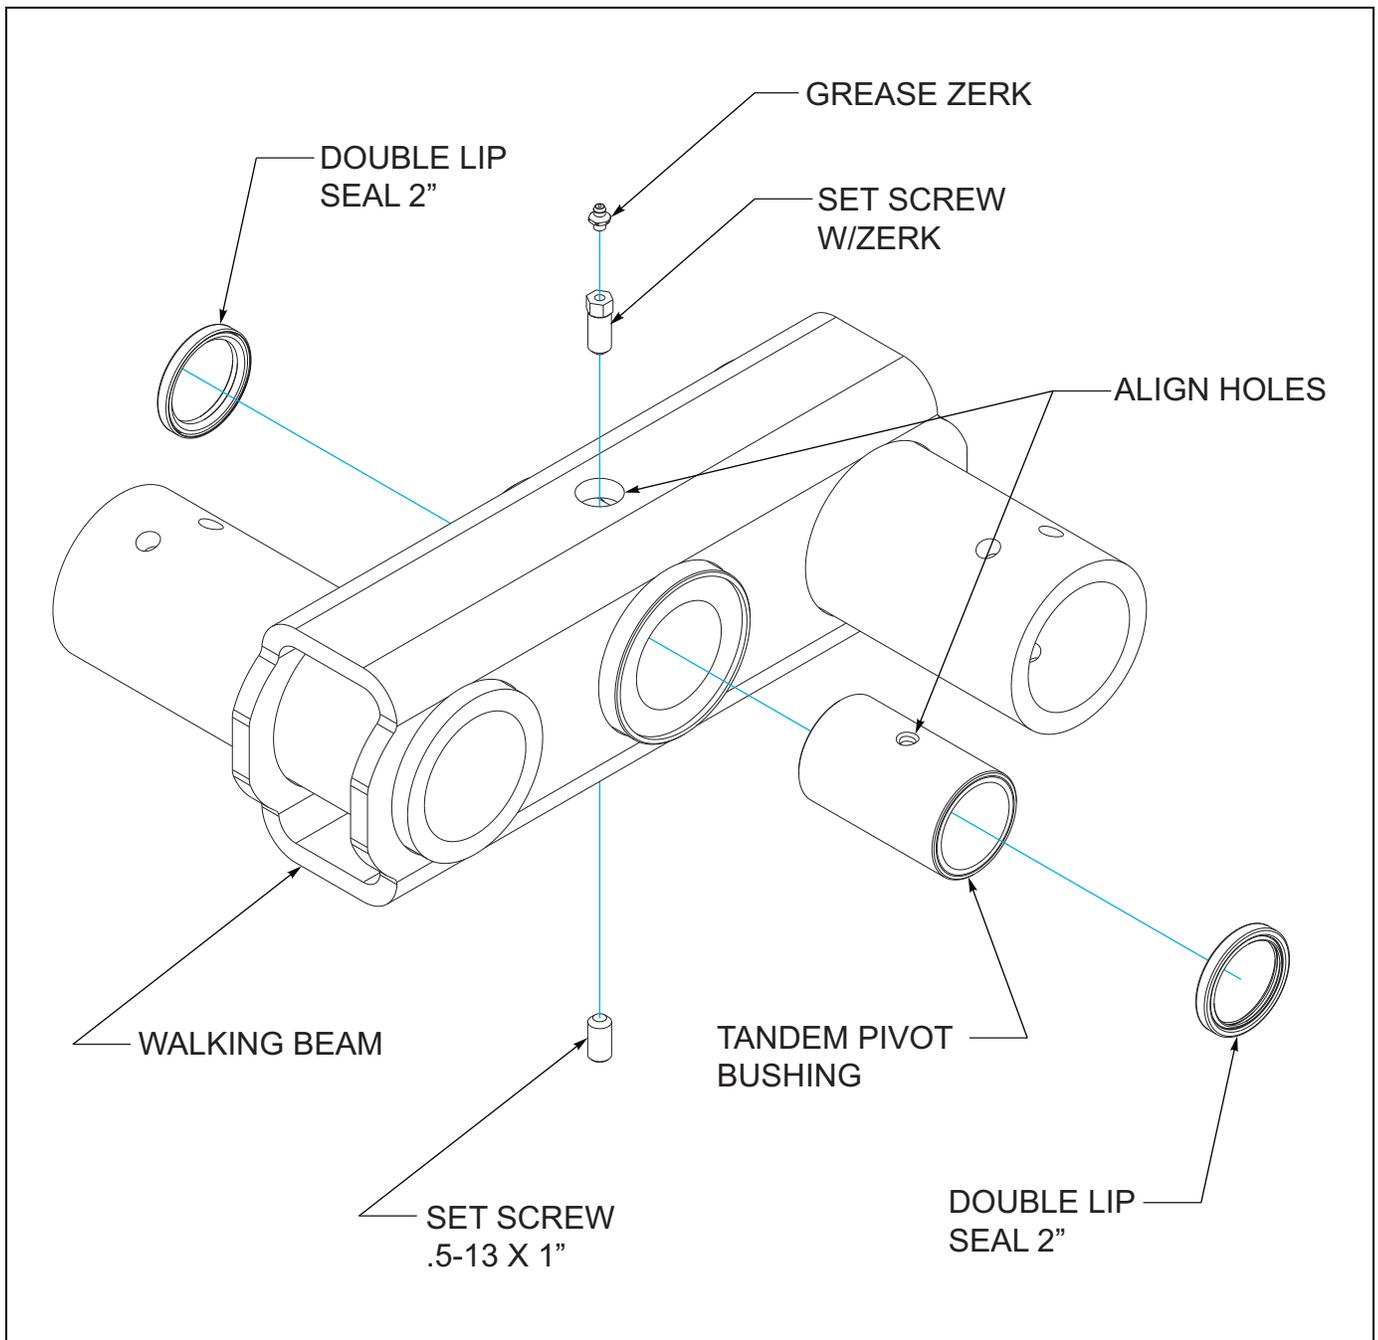

Figure 1-2: New Walking Beam Assembly
1. Install set screws to verify they go completely through the hole and can contact the bushing (See **Figure 1-2.**)